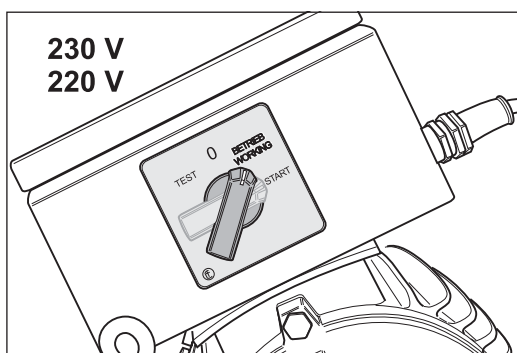

Fig. 18 Once the motor has reached its full speed, release the switch button. The switch button will then automatically move to position -BETRIEB (WORKING)-.
- 3 Once the motor has reached its full speed, release the switch button. The switch button will then automatically move to position -BETRIEB (WORKING)- (Fig. 18).